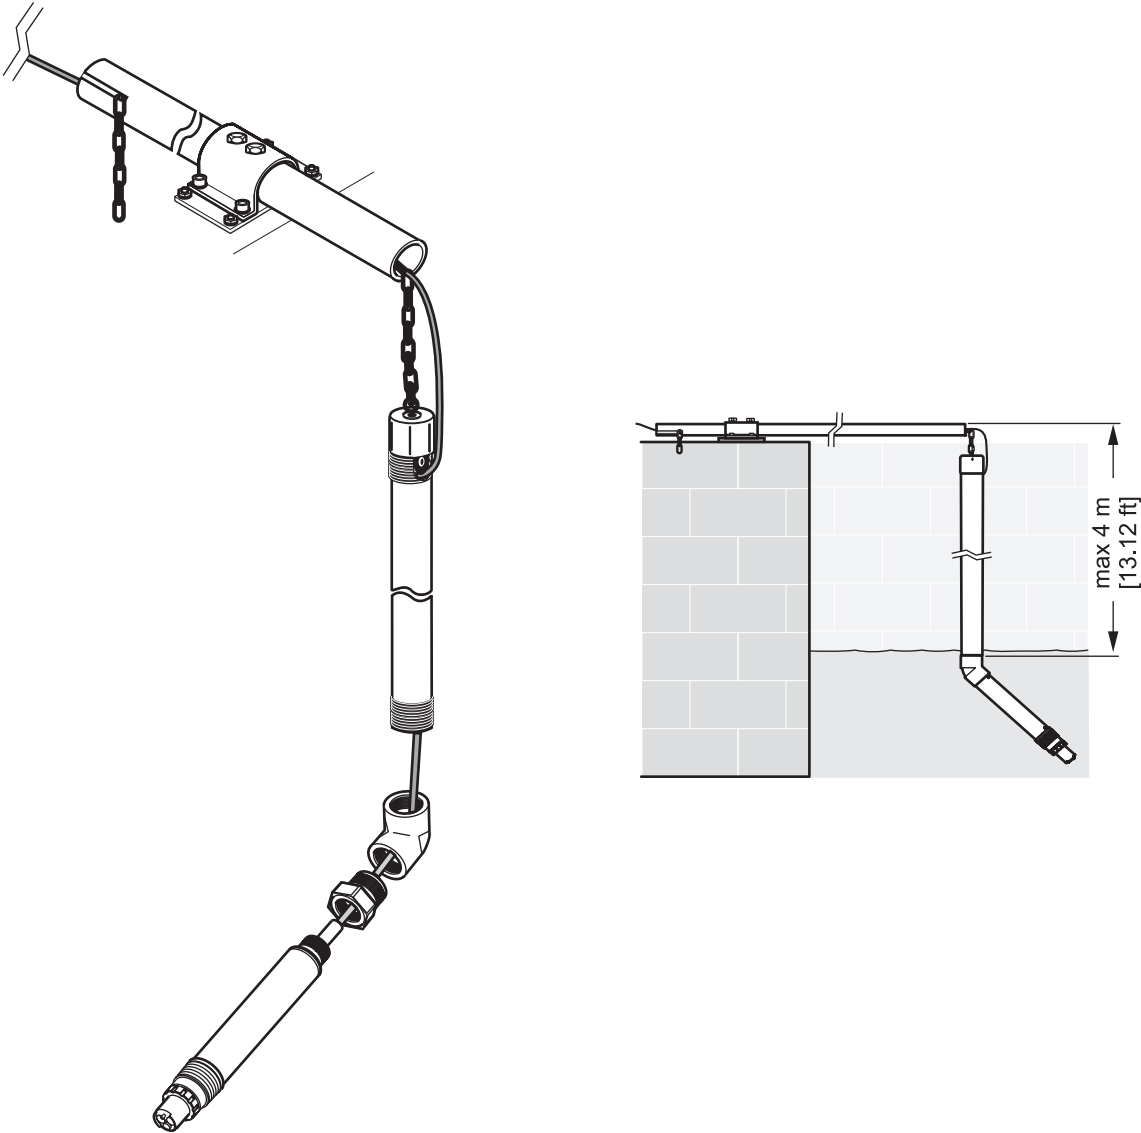
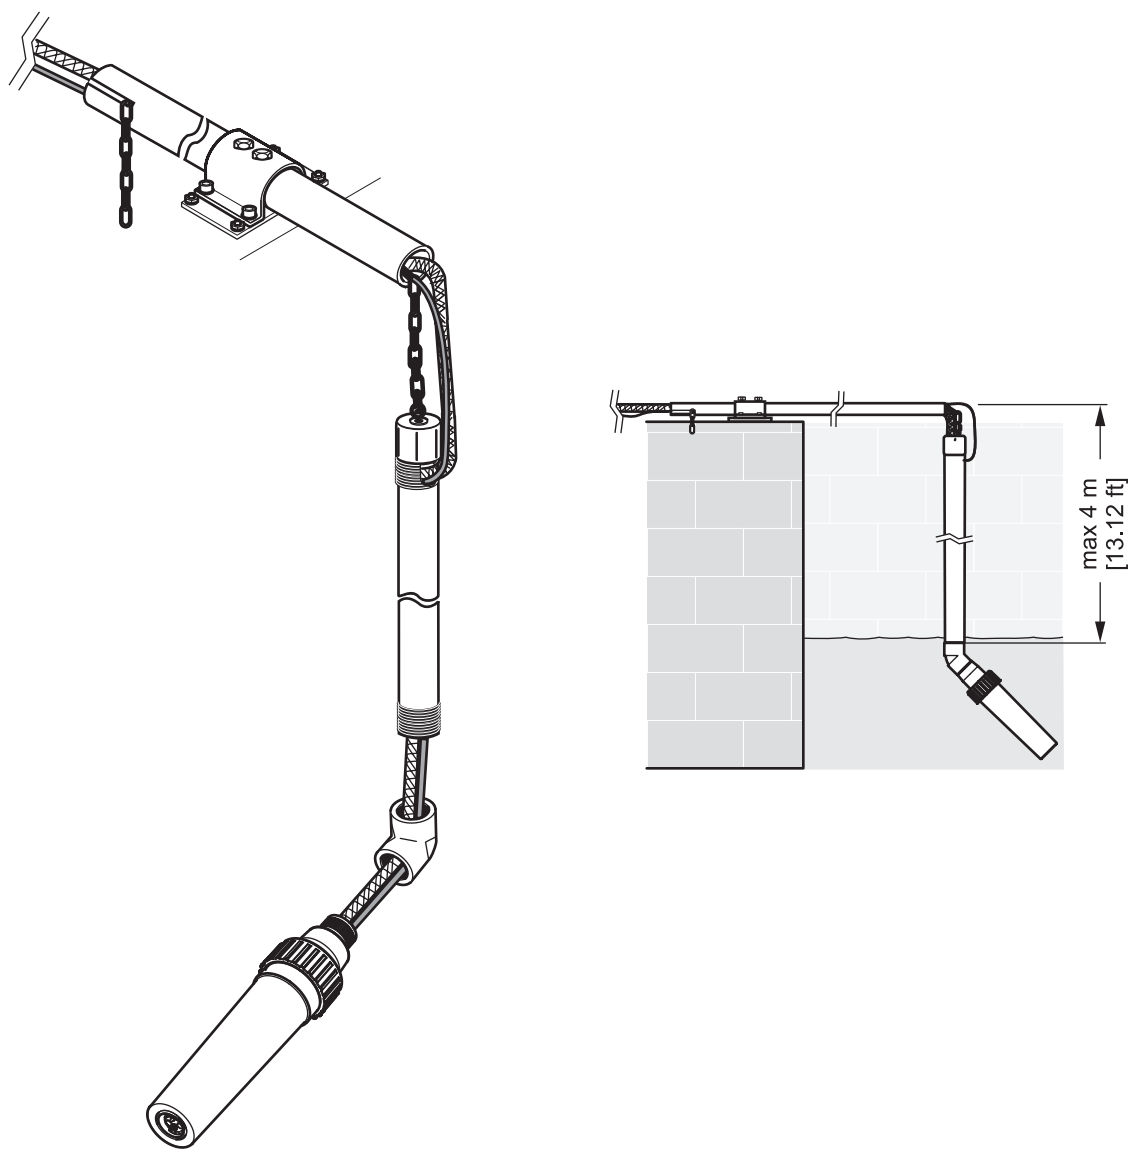

Figure 5 Installing on the ground without a cleaning unit
Figure 6 Installing on the ground with a cleaning unit
- Installation without cleaning unit—Guide the sensor cable through the reducer, the elbow and the immersed pipe and bolt all pieces together (Figure 5 on page 7).
- Installation with cleaning unit—Guide the sensor cable and the air tubing through the elbow and the immersed pipe and bolt all pieces together (Figure 6 on page 8).
9. Guide the sensor cable (or sensor cable and air tubing) out of the side of the immersed pipe (Figure 5 on page 7 and Figure 6 on page 8).